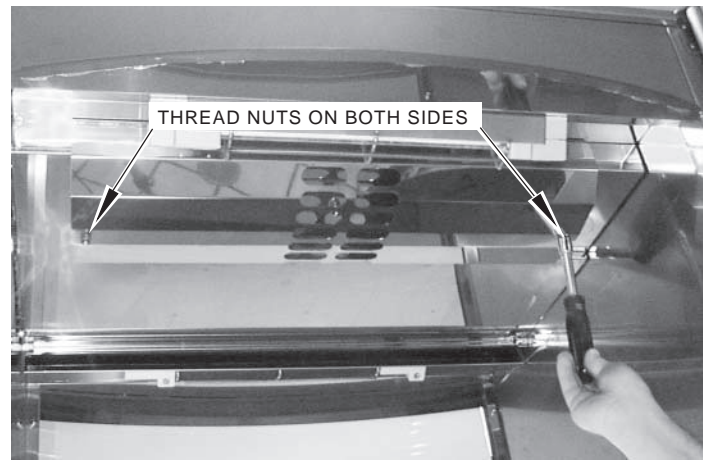

Fig. 74
15. Reinstall vent-grate: Tighten $\frac{7}{16}$ " nuts on each side of vent grate using a $\frac{7}{16}$ " nutdriver (Fig. 74).